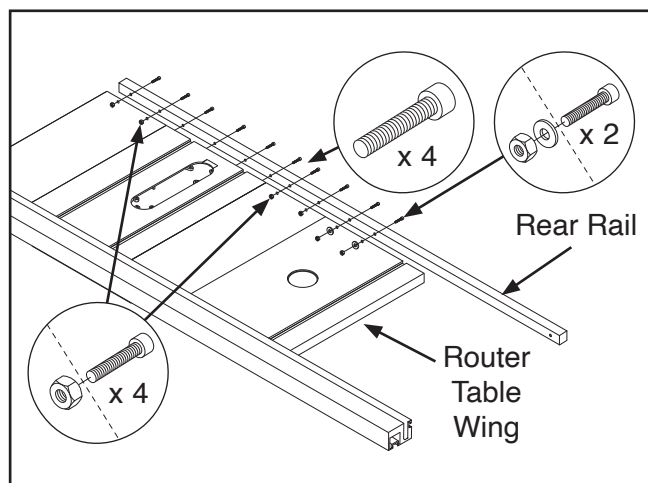

Figure 11. Locations of rear rail and fasteners.
13. Attach rear rail to extension wings, main table, and router table wing with (8) cap screws and (4) hex nuts removed in **Step 5** and (2) M8-1.25 x 16 cap screws, 8mm flat washers, and M8-1.25 hex nuts (see **Figure 11–12**).